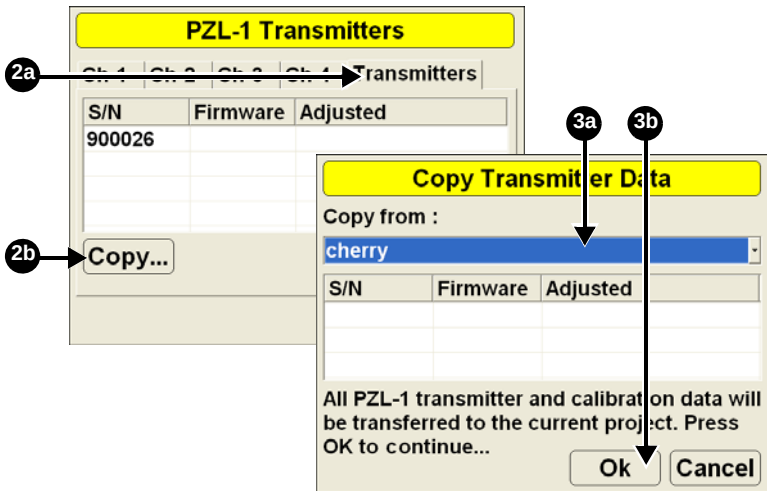

Figure 7-14. Copy Transmitter Data
2. Tap the Transmitters tab and press **Copy** (Figure 7-14 on page 7-19).
3. Select an existing control point file that contains mmGPS transmitter data. Press **Ok** (Figure 7-14 on page 7-19).